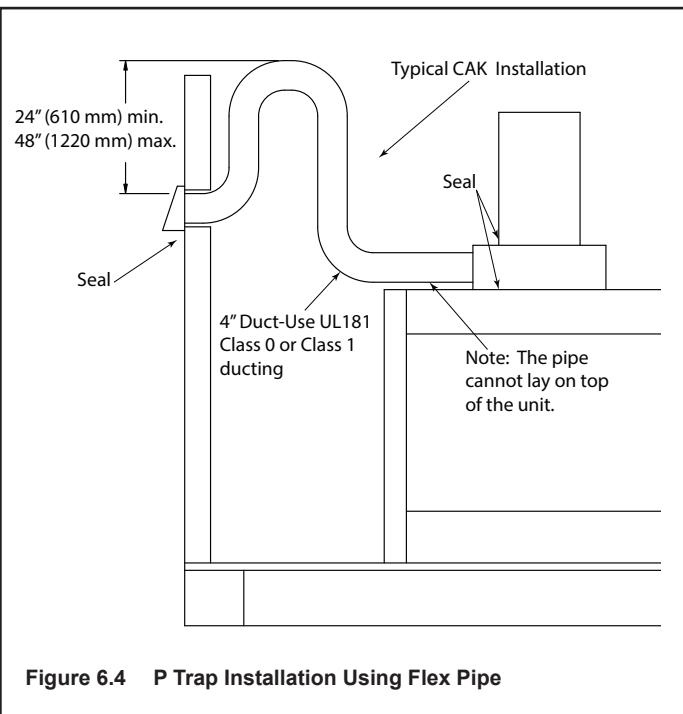

Figure 6.4 P Trap Installation Using Flex Pipe
- Seal around the cap and flex with caulk to stop air from getting into the chase. See Figure 6.4.
When using the chimney air kit (CAK) and the outside air kits, it is recommended that you install a P trap as shown in Figure 6.4 by bending the flex duct, or using 90° elbows if using rigid duct to help prevent air circulation when the fireplace is not in use. In colder climates, it is strongly recommended to use an insulated duct.